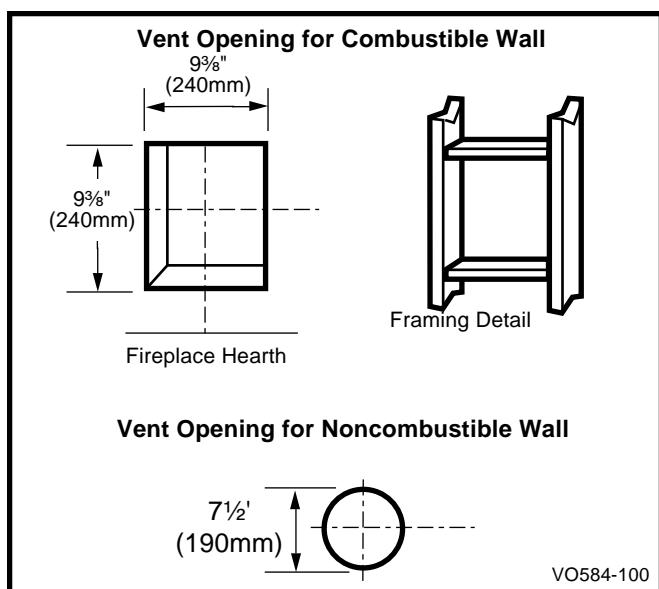

Fig. 14 Locate vent opening on wall.
Locate the vent opening on the wall. It may be necessary to first position the fireplace and measure to obtain hole location. Depending on whether the wall is combustible or noncombustible, cut opening to correct size. (Fig. 14) For combustible walls, first frame in opening.
Combustible Walls: Cut a $9\frac{3}{8}''$ x $9\frac{3}{8}''$ (240mm x 240mm) hole through the exterior wall and frame as shown. (Fig. 14)
1. Establish vent hole through the wall. (Fig.14)